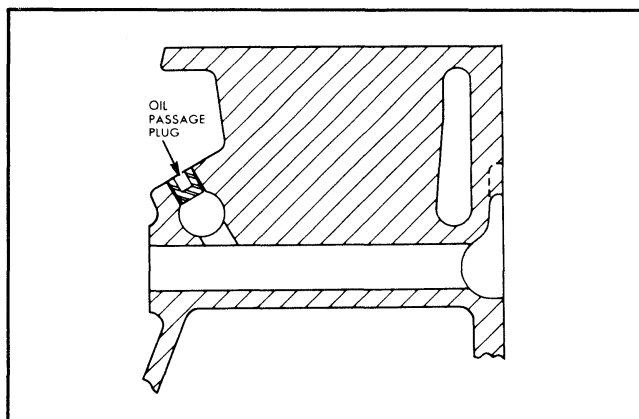

Fig. 6-107 Cylinder Head Oil Passage Plug
16. Replace plugs in ends of oil gallery (Fig. 6-107).
1. Inspect valves and seats to determine condition before cleaning. Also check oil and water passage plugs for evidence of leakage (Fig. 6-107).
c. Check oil passages from oil gallery through rocker arm studs. A simple test can be made using a rubber hose and smoke. Block lower end of cylinder head screw hole which feeds oil gallery (Fig. 6.107) and blow smoke in top end of hole through rubber hose. Smoke should come out hole in each stud.